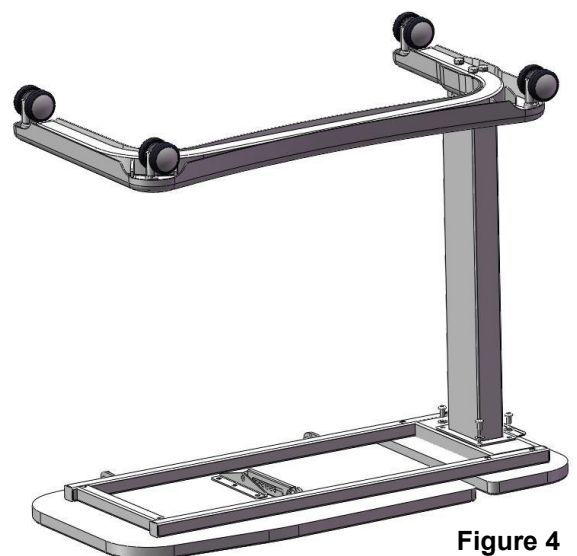

Figure 4
- Locate the column and base assembly in position, figure 4.